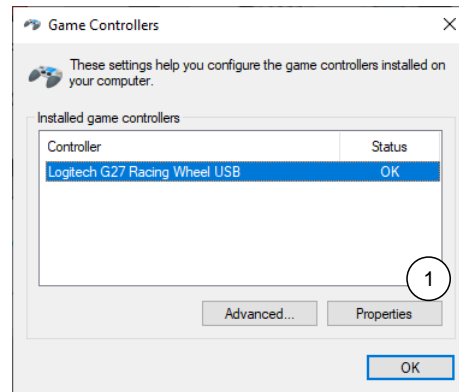

Figure 9. Logitech Game Controllers panel.
3. From the **Game Controllers** panel, click **Properties** (Figure 9, ①).